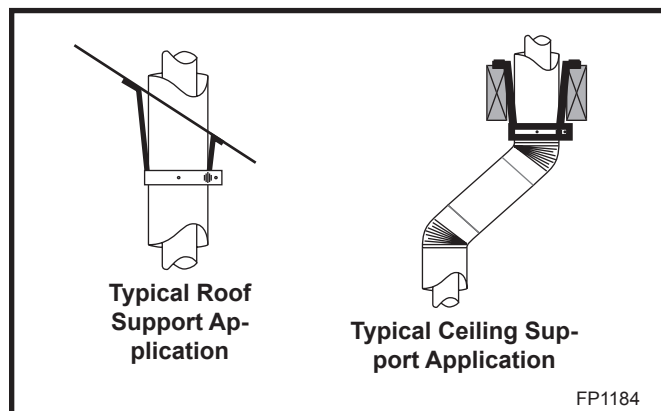

Fig. 44 Venting supports.
- 7DVCS supports offsets. (Fig. 44) This application will require that you first determine the roof pitch and use the appropriate starter kit. (Refer to Venting Components List)
6. Install roof support (Fig. 44) and roof flashing making sure upper flange of flashing is below the shingles. (Fig. 46)